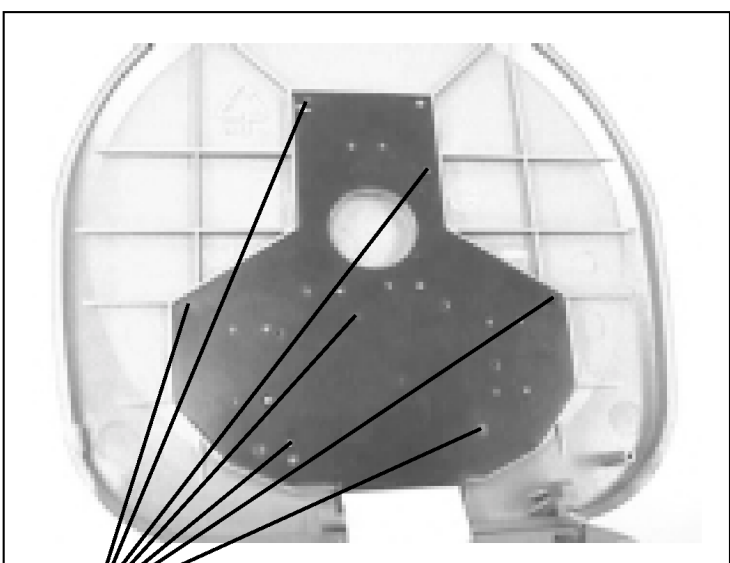

Fig. 9
- Undo 7 screws ⑤ (Fig.9)
- Undo 1 screws ⑥ (Fig. 9)